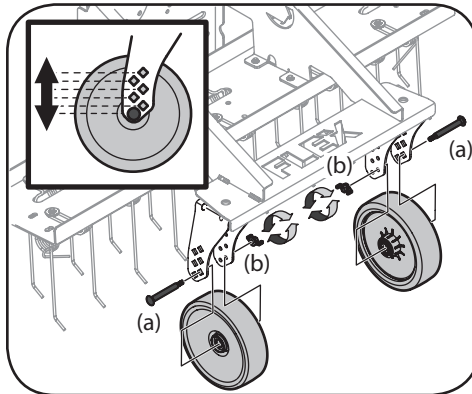

Figure 4-5
1. Remove the axle bolts (a) and wing nuts (b) securing both the right and left wheels. See Figure 4-5.
2. To raise the dethatcher, align the center holes of both wheels with a hole lower on the axle. See Figure 4-5.
3. To lower the dethatcher, align the center holes of both wheels with a hole higher on the axle. See Figure 4-5.
4. Secure the wheels in place with the axle bolts and wing nuts removed in step 1. Ensure that the height setting used on each side is level, coinciding with the opposite side. See Figure 4-5.